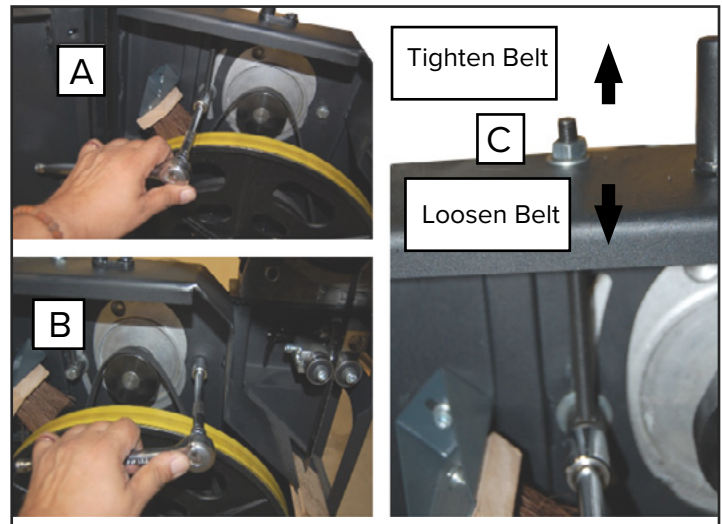
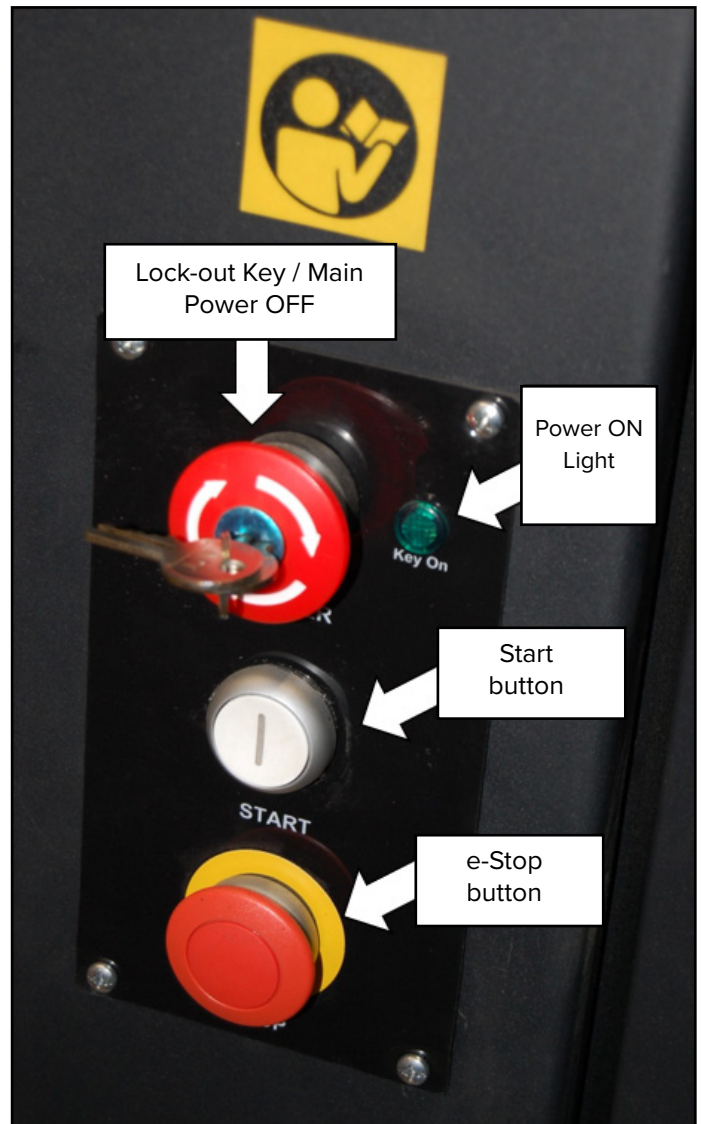

Figure 24: Belt Tensioning Mechanism.
Figure 27: Main Switch box Assembly.
- The drive belt (#87A) FIG 24 (A) should give no more than 3/8" in the center when pressed with finger pressure Fig. 27.
- Loosen the two hex bolts Fig. 24 (B) securing the motor to the frame.
- Loosen the hex nut on the top of the motor pulling rod Fig. 24 (C).
- Unlock the lock-out button Fig. 27.
- Press the ON button Fig. 27.
- Turn off the saw Fig. 27 .
- Lock out the saw for safety Fig. 27.